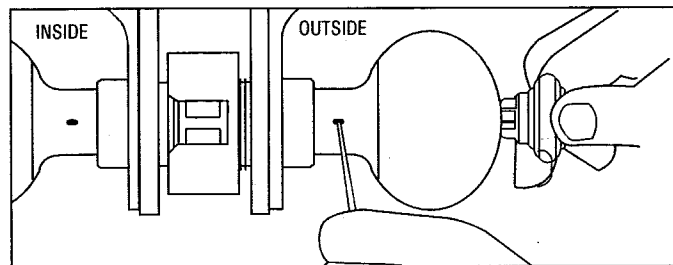

FIG. 9a TO REVERSE HANDING-KNOBS:
1. Remove outside knob. See Page 7, Fig. 9a.